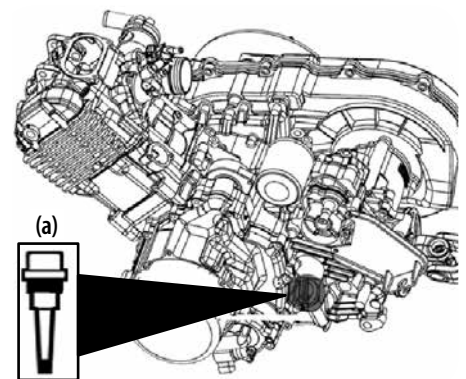

Figure 5-11
2. To check the oil level, remove the dipstick (a), wipe it clean, replace it, and pull it out again, check to see if the level is too low and add new oil to the full level on the dipstick (a). See Figure 5-11 for the location of dipstick.